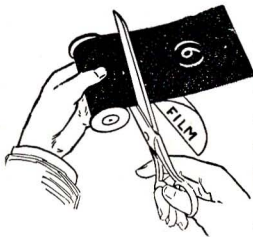

Fig. 1—Right.
a. Unroll the film and cut the exposures apart as shown in Fig. 1.